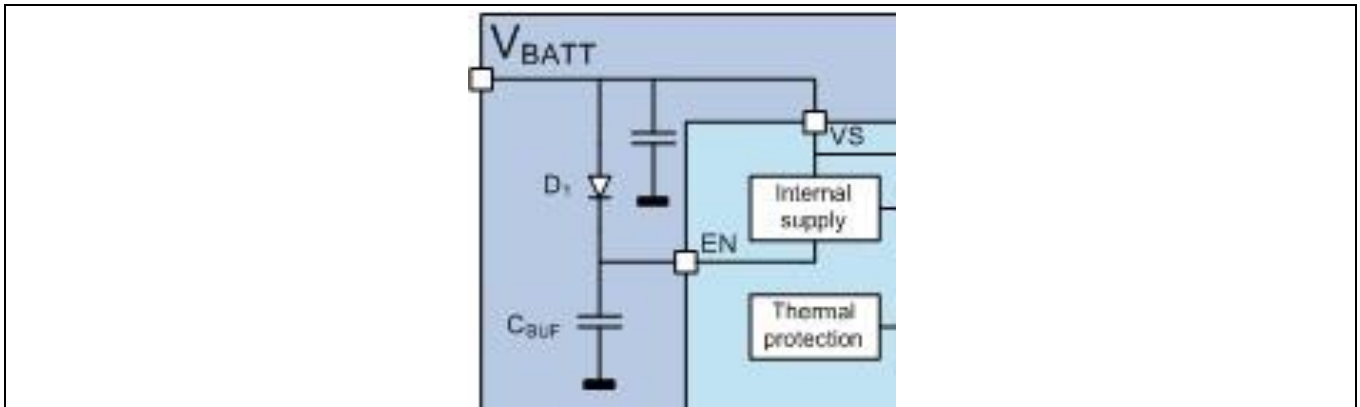

Figure 7 EN pin used as alternate logic supply
- Supplying the logic from the EN pin allows the device to have a faster response time at the outputs during PWM operation, where V_S of the device is PWM controlled directly. The output response time is shorter because the POR time, t_{POR} is longer than the V_S turn on time, $t_{ON(V_S)}$. So, if the EN pin voltage is kept above $V_{EN(on)}$, the output will respond more quickly to PWM control and achieve a wider duty cycle range. The capacitor and diode circuit below in Figure 7 is an example of a possible way in the application to keep the input to output delay as short as possible during PWM operation.